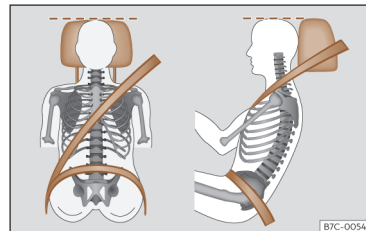

Fig. 17 Correct belt web and headrest positions
- Adjust the head restraint so that its upper edge is, as far as possible, at the same level as the top of your head, as close to eye level as possible¹⁾ >>> page 125. Keep the back of your neck as close as possible to the headrest >>> Fig. 17.
- Adjust the seat lengthwise so that you can fully step on the pedals with your knees slightly bent and there is a distance between the knee area and the instrument panel of at least 10 cm (4 inches) >>> Fig. 17.